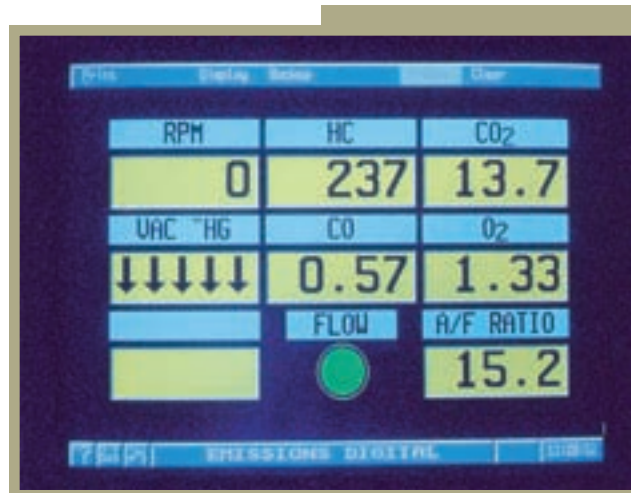

Figure 9
The four gas analyzer is yet another useful feature of the 400. The four gas analyzer displays RPM, vacuum (HG), HC ppm, CO in percentage, O₂ in percentage, CO₂ in percentage, Air/Fuel ratio, and has a calibrated Flow indicator as well. Upgrading to five gas to monitor NO_x is optional. Selecting Emissions Digital from the main menu opens the live four gas display (**Figure 9**). The Min data format gives a quick review of live readings. The Max data format is used to review all of the live values captured, including lowest and highest, and to determine how much the readings vary.